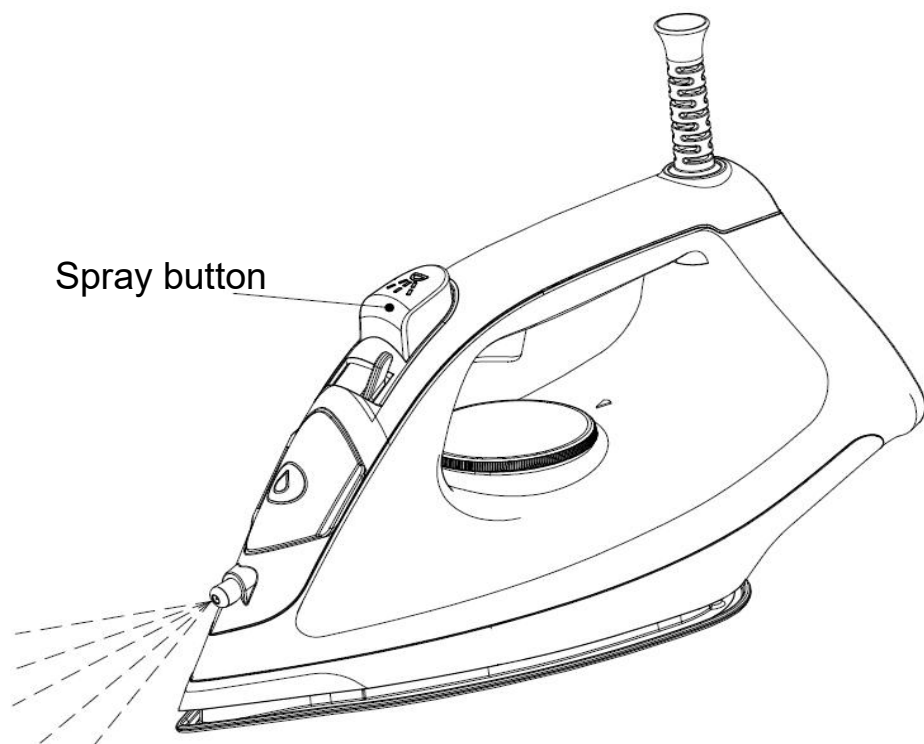

Fig.6
5. You can spray mist by the pressing the Spray button once (see Fig.6).